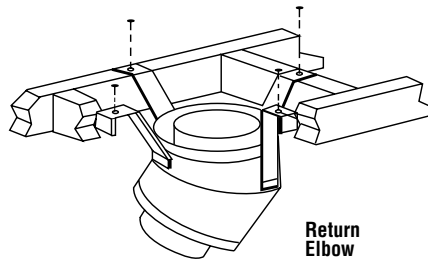

Figure 41
**Step 5.** Secure support straps to framing members by nailing under tension in sheer (Figure 41).